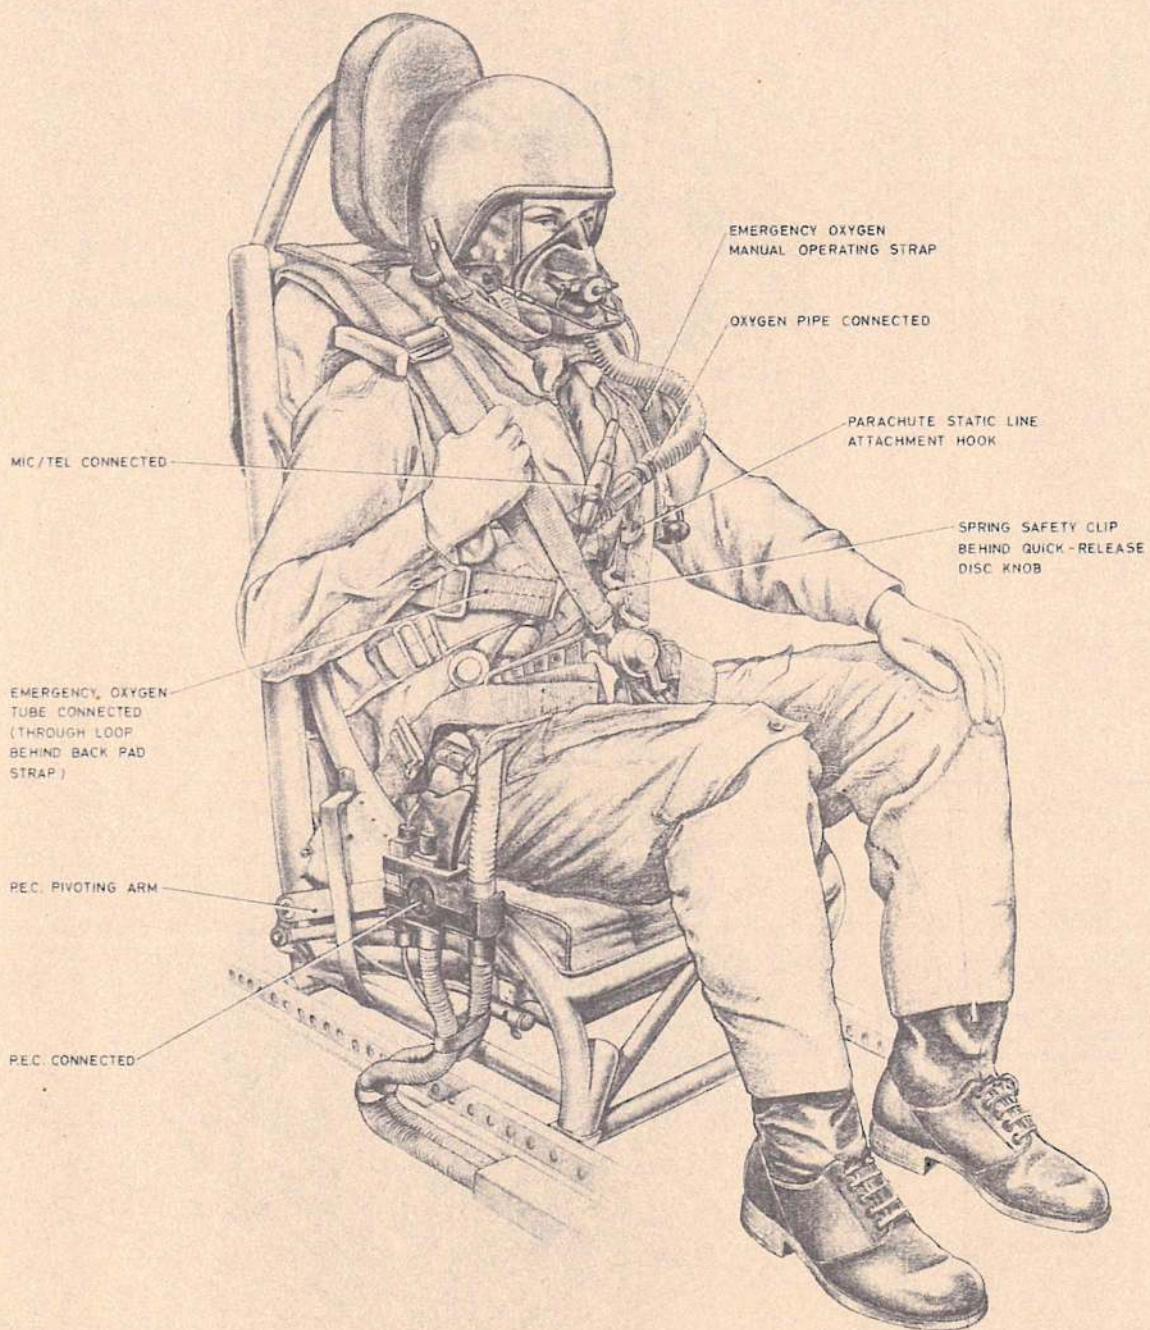

Fig. 13. The static seat occupied (1)
48. Strapping-in procedure for each crew member is the same and is as follows; refer to figs. 13 and 14 for detail. In the illustrations the aircrew are depicted in high altitude clothing (see Appendix 1):-